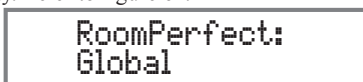

Figure 62
2. Press the LEVEL +/- Push-button until "RoomPerfect Global" appears on the Front Panel Display. Refer to figure 62.